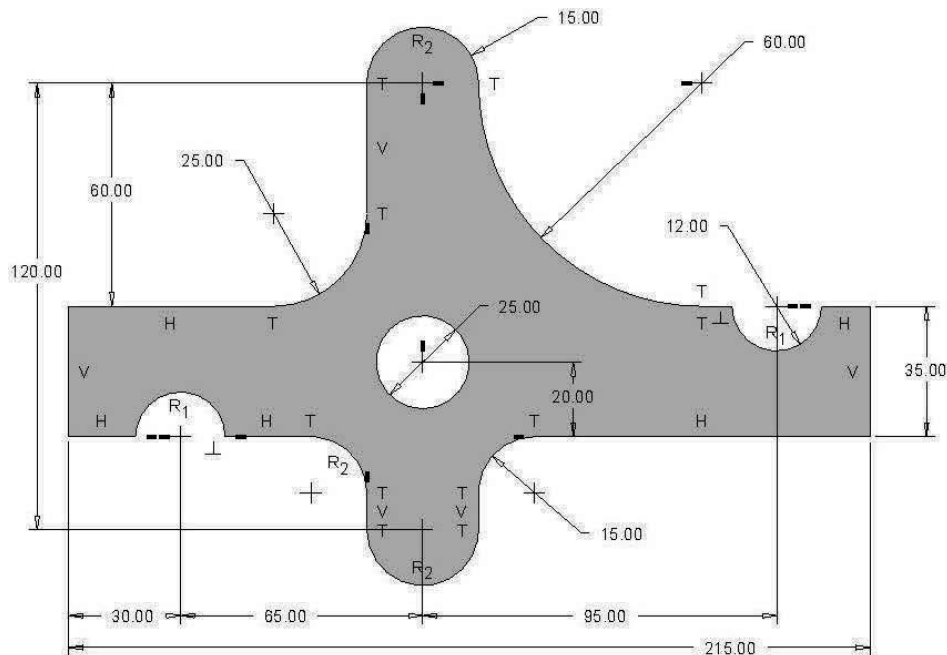

Figure 3-81 Problem 12
**3.12 Challenge problem** - Draw the "Racket\_Pawl" (Figure 3-81). **Design Intent**—All arcs are tangent to each other or the straight edges. Unmarked similar sizes are the same size. All dimensions are in millimeters.